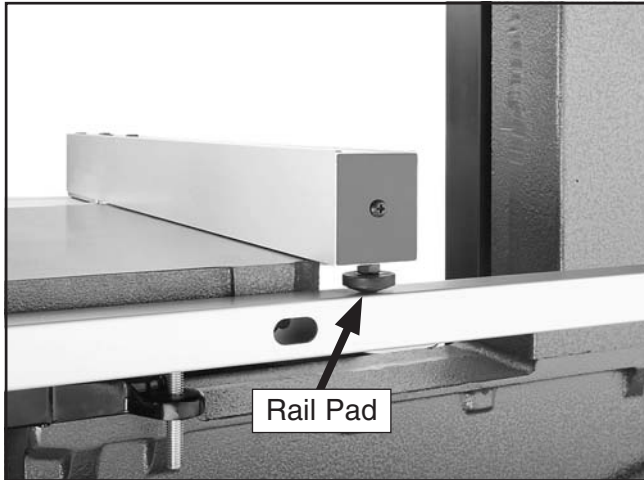

Figure 19. Fence rail pad installed.
16. Thread the M6-1 hex nut onto the fence rail pad, then thread it into the rear underside of the fence (see **Figure 19**) so that the fence rests the same height above the table along its full length. Tighten the hex nut against the fence to secure the setting.